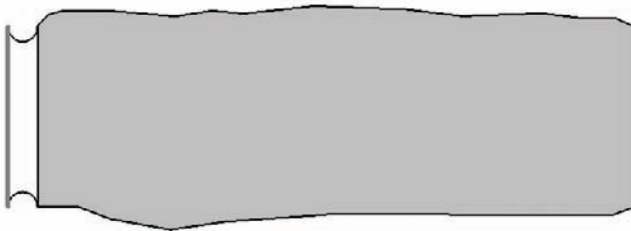

FIGURE 12.28 The solid pattern will cover the previous pattern. We will fix this in a moment.
14. On the Mode panel, click Finish Edit Mode, and then press Esc. Your brick should look like Figure 12.28.